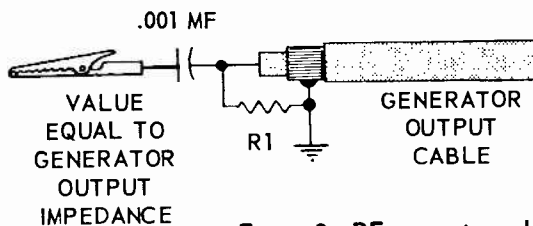

Figure 9. RF generator cable.
1. **Generators** – Except where otherwise noted, all signal generating equipment should be terminated as shown in Figure 9.